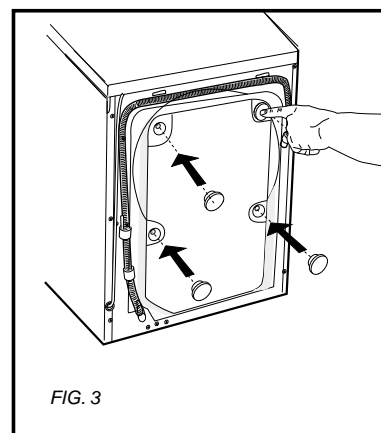

FIG. 3
5. Plug the holes with the plastic plugs provided with the unit (packed inside the drum with the documentation) (Fig. 3).